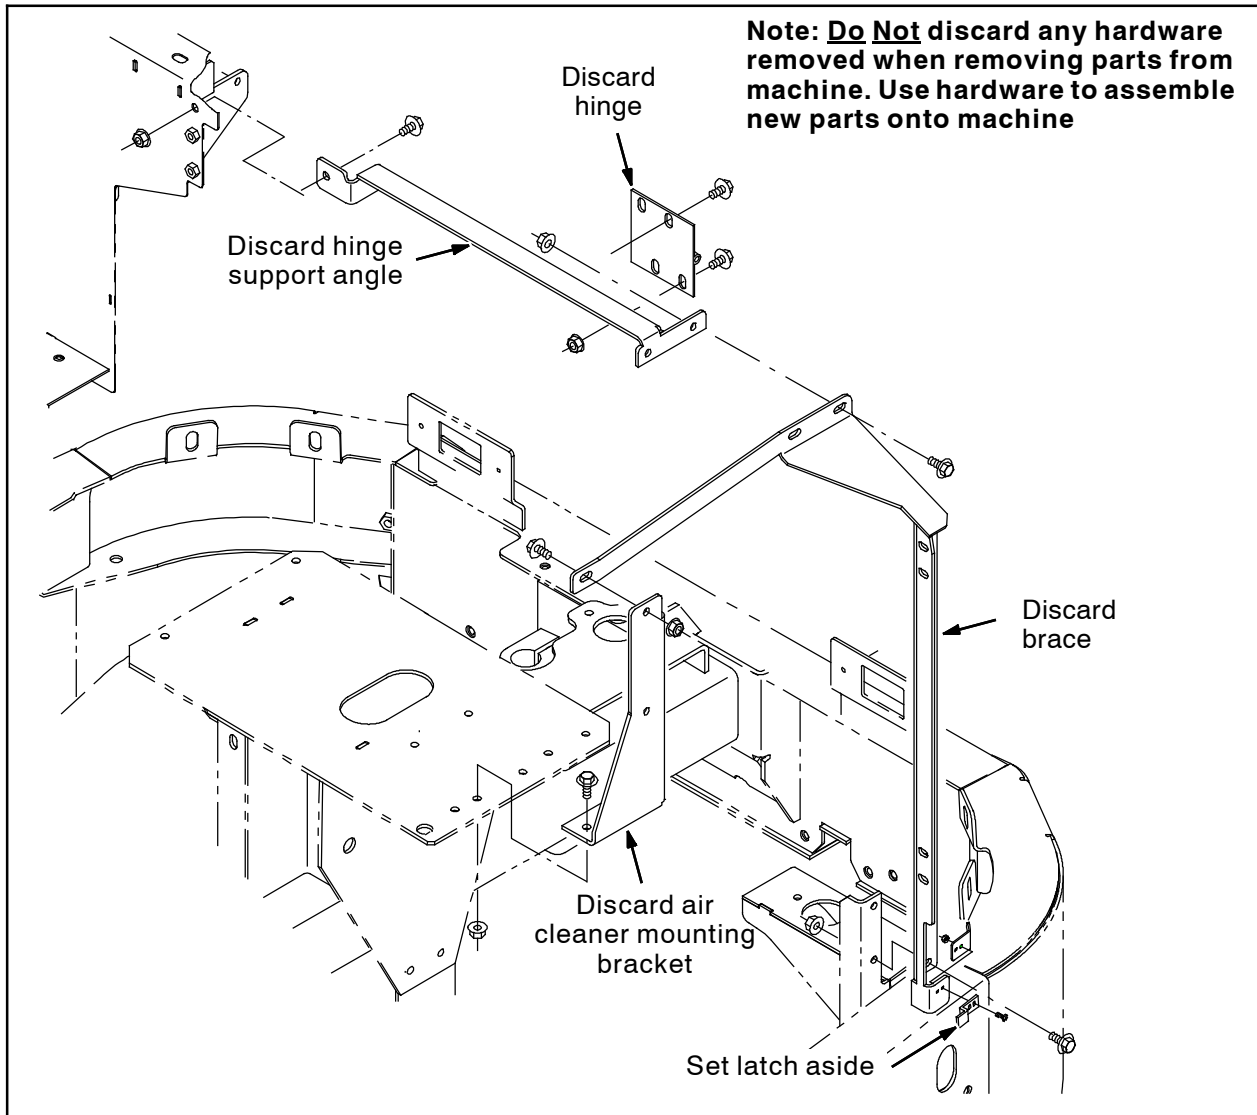

FIG. 34
47. Remove the brace, hinge support angle, hinge, air cleaner mounting bracket, and latch from the machine. Set the latch and all hardware aside. Discard the brace, and hinge support angle, hinge. (Fig. 34)